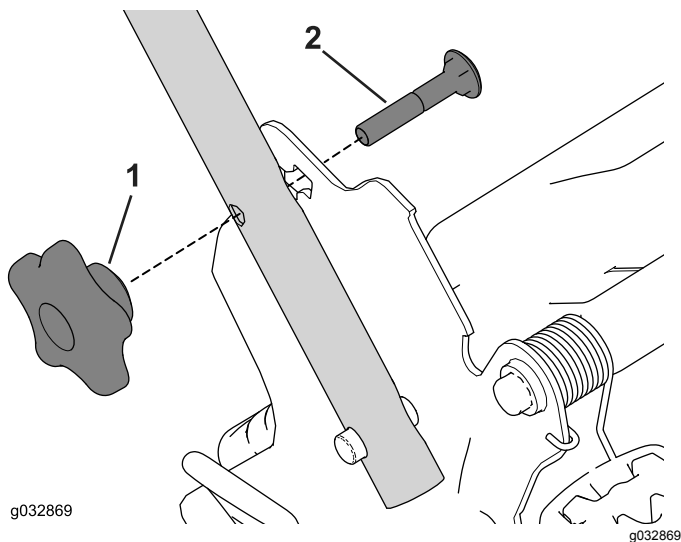

Figure 28
2. Remove and save the 2 handle knobs and 2 carriage bolts from the handle brackets (Figure 28).